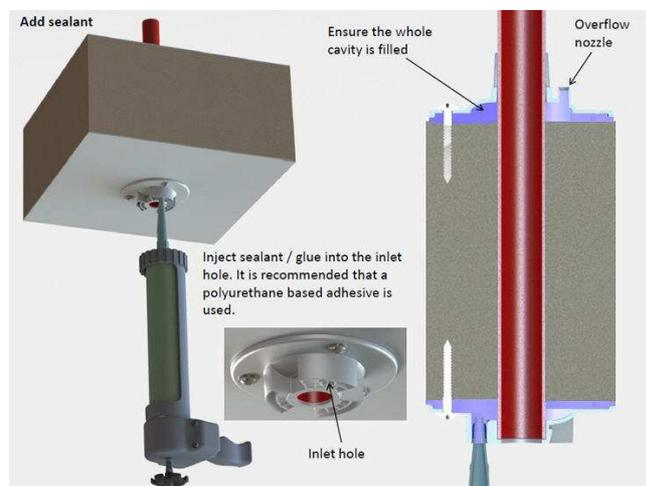

Figure 4 – Applying sealant
6. Insert the sampling pipe (330mm (1ft) in length approximately) into the hole with the aid of spring fingers to retain the pipe in the hole. Clean the surface and secure the flange to the sandwich panel using three (3) of the self-tapping screws provided.
7. Mount the lower flange on the bottom of the hole (inside the temperature controlled room). Clean the surface and secure the flange using the remaining three (3) self-tapping screws provided.
8. Ensuring all surfaces are clean and dry, apply sealant (a polyurethane based adhesive recommended) through inlet holes on both top and bottom flanges, see Figure 4.